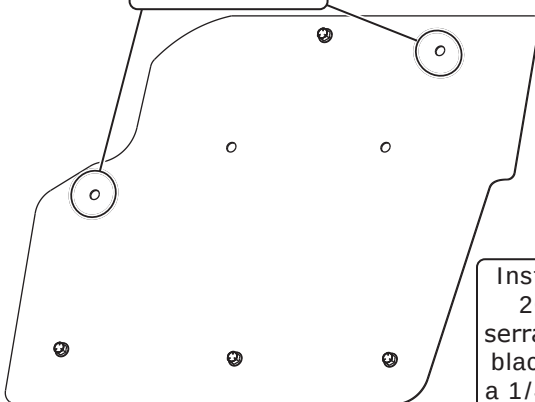

Figure 2
4. Remove the OEM heater assembly ducting and defrost ducts (discard) (See Figure 2, below).
5. Remove the OEM heater assembly (discard) (See Figure 2, below).
7. Remove the passenger-side kick panel by removing (5) OEM screws (retain). Disconnect the passenger-side below).
8. Remove the cable from the passenger side astro vent duct, and then remove the astro vent duct by removing (5) screws (See Figure 2, Page 11).
9. Remove the cable from the driver side astro vent duct, and then detach the astro vent duct by removing (4) screws (See Figure 2, Page 11). To remove the driver side astro vent duct:
- A. Remove (4) bolts and (2) nuts to lower the steering wheel and steering column (See Photo 2, below).
- B. Carefully remove the light conductor by removing (1) fastener (See Photo 3, below).
- C. Remove the instrument gauge cluster by removing (4) screws. Disconnect the wires and cables from the back side of the cluster (See Photo 3, below).
- E. Loosen the windshield wiper switch by removing (3) screws. **NOTE: It is not necessary to unplug the connector.**
- F. Remove the headlight switch by removing (2) screws and disconnecting the wire connector (See Photo 4, below). **NOTE: On some cars, it may be necessary to loosen the driver side of the dashboard to remove the driver side astro vent and ducting. Refer to the OEM assembly manual as needed.**
3. Temporarily install the firewall cover onto the firewall. Using the firewall as a template, drill the remaining holes using a 5/16" drill bit (See Figure 2, below). Remove the firewall cover.